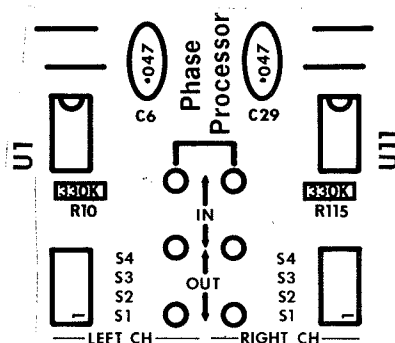

FIGURE 3-10 INPUT ATTENUATOR LOCATION
3.3.4 Input Attenuation (Figure 3-10)